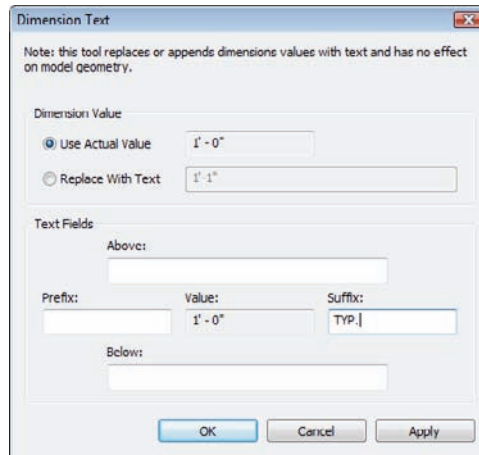

FIGURE 5.44 Under Dimension Value, choose Use Actual Value, and type TYP. as the suffix.
7. Under Suffix, type TYP., as shown in Figure 5.44.